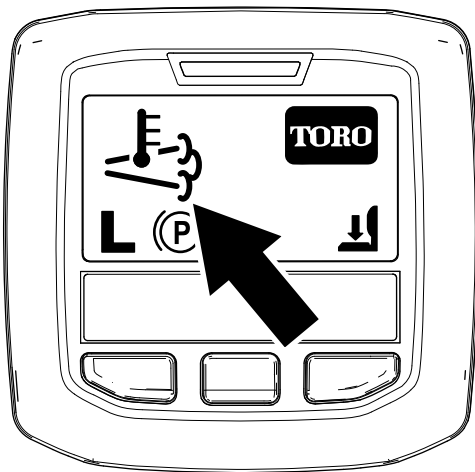

Figure 33
- The high exhaust-temperature icon  displays in the InfoCenter (Figure 33).